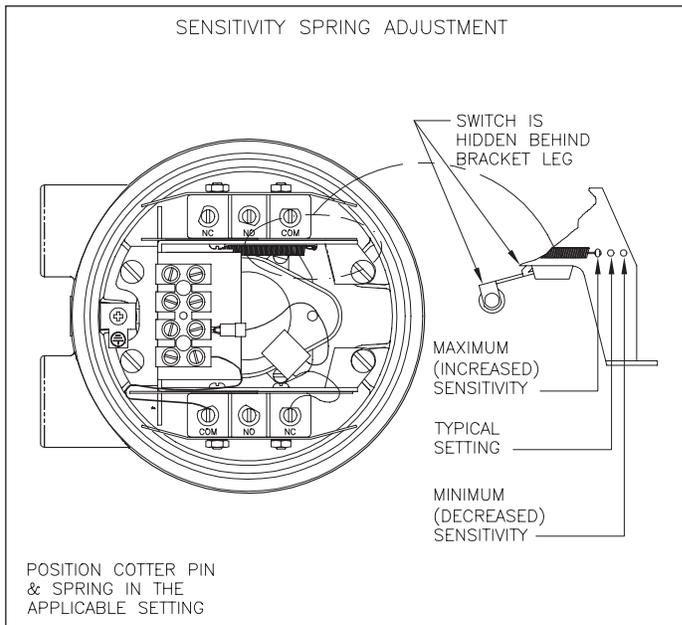

Figure 8
- 1) **Setting Upon Receipt** - (See Figure 8) All rotary paddle bin monitors are shipped from the factory with the spring tension preset at the mid-range sensitivity setting. In most applications this setting results in acceptable operation assuming proper paddle selection. Setting can be verified by locating the cotter pin holding the spring to the switch bracket frame. The cotter pin will be inserted into the middle hole.